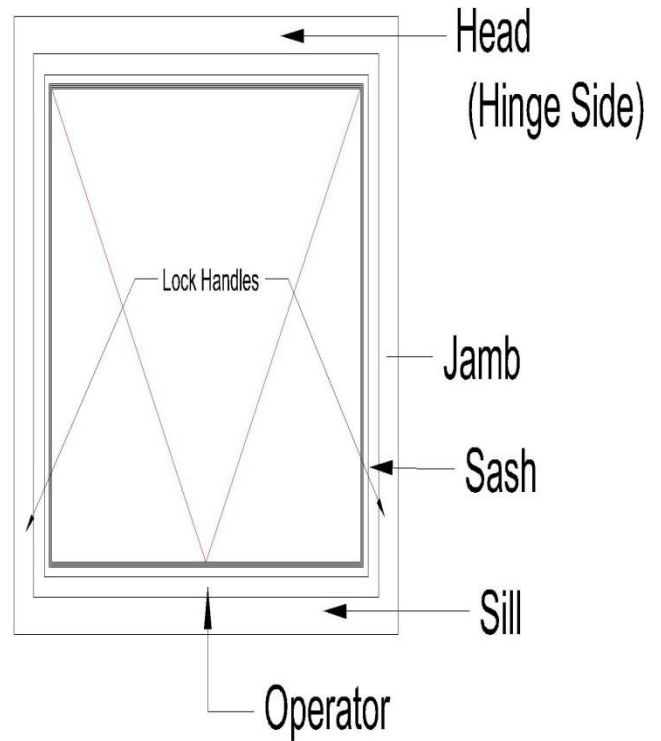

Fig. 0-2
- If applicable, apply loose nail fin flange to all four sides of the window frame. (Fig. 0-2)